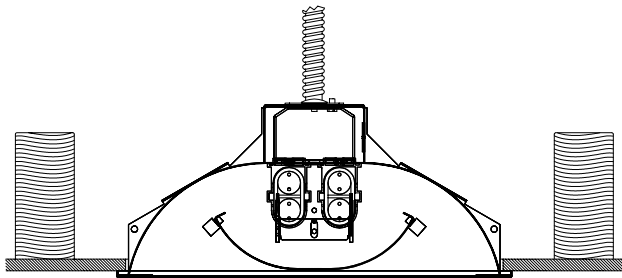

FIG. 3
3. LIFT LUMINAIRE (LAMPS REMOVED) INTO OPENING UNTIL FLUSH WITH DRYWALL CEILING AS SHOWN. (FIG. 3)